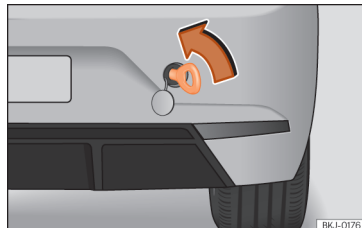

Fig. 48 Right side of the rear bumper: towline anchorage in position.
- Screw the towline anchorage into the housing by turning it as far as it will go **anticlockwise** »» Fig. 48 »» . Use a suitable object that can completely and securely tighten the towing eye in its housing.